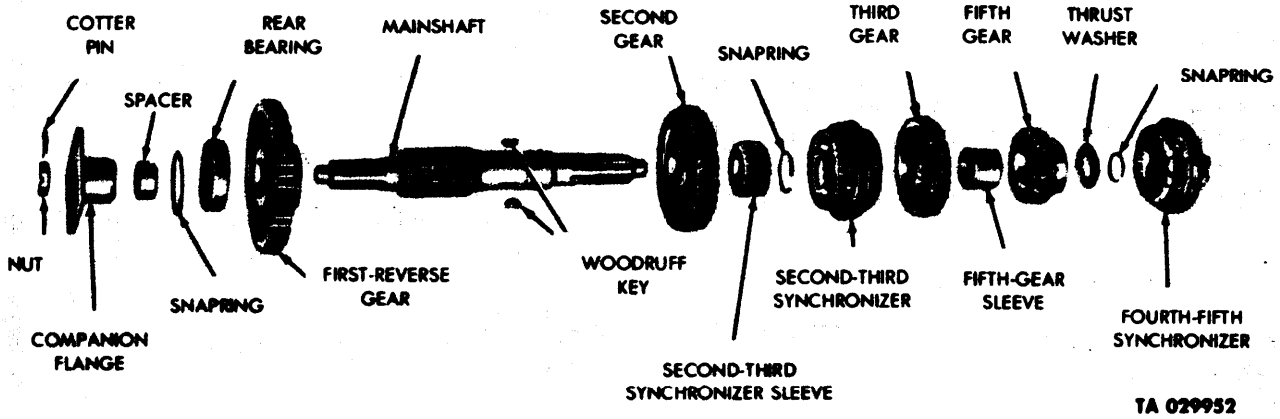
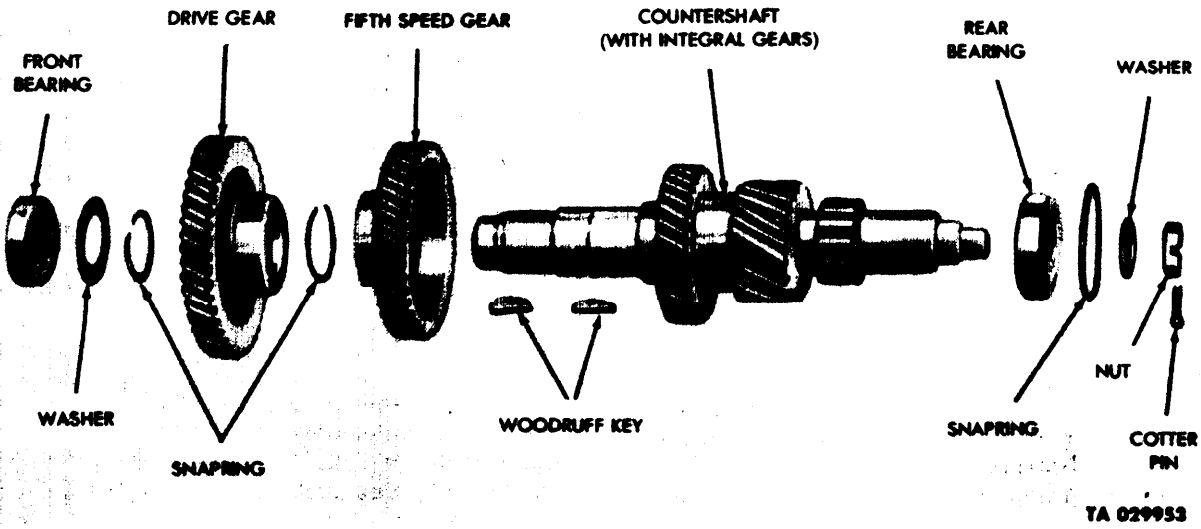

Figure 3-13. Transmission Mainshaft Assembly — Exploded View — Transmission Model 3053A.
Figure 3-14. Transmission Countershaft Assembly — Exploded View — Transmission Model 3053A.
a. Description. Figure 3-1 shows the transmission model 3053A used on the 2½-ton, 6x6, multifuel engine vehicles without front winch equipment. This transmission can also power a front winch by means of a power takeoff mounted on the left side of the transmission. (See fig. 3-2.) The construction of transmission model 3053A is almost identical to that of transmission model 3052, except for the fourth and fifth gear arrangements. This difference is shown by comparison between figures 3-13 and 3-6 and figures 3-14 and 3-8.